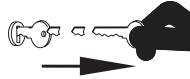

FIG. 3-28
2. Raise quick hitch latch handles. (Fig. 3-28)